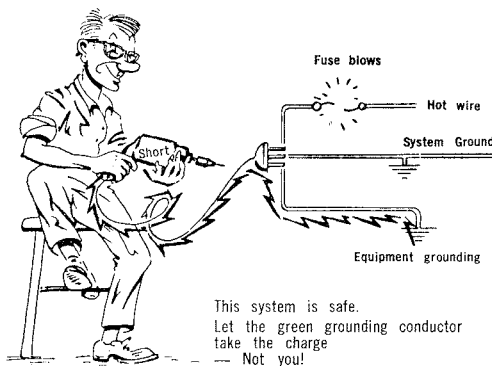

Fig. 1
**2.02** Grounding, as described in this section, is accomplished by a third conductor used to connect the tool housing to the local power grounding system or to other equivalent grounds such as a cold water pipe. (See Figs. 1 and 2)